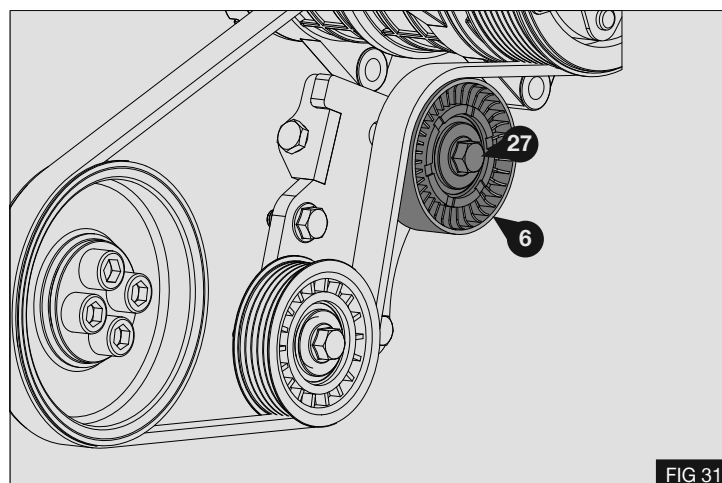

FIG 31
6. Once the belt has been correctly located tension the drive belt (see table) to the new belt value. Torque the bolt (27) securing the adjuster pulley (6) to 29N m / 22 lb ft - Fig 31